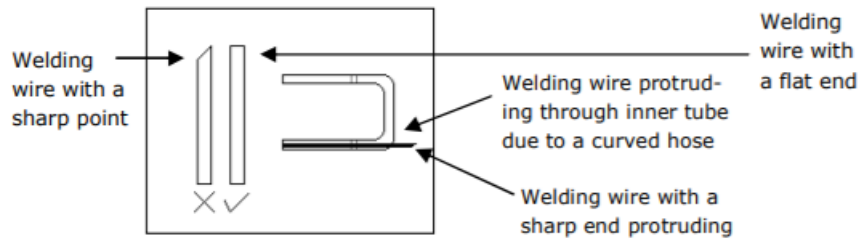

Figure 23
- ALWAYS CUT THE WELDING WIRE WITH A FLAT END TO AVOID DAMAGES WHILE FEEDING (please refer to figure 23 for details).